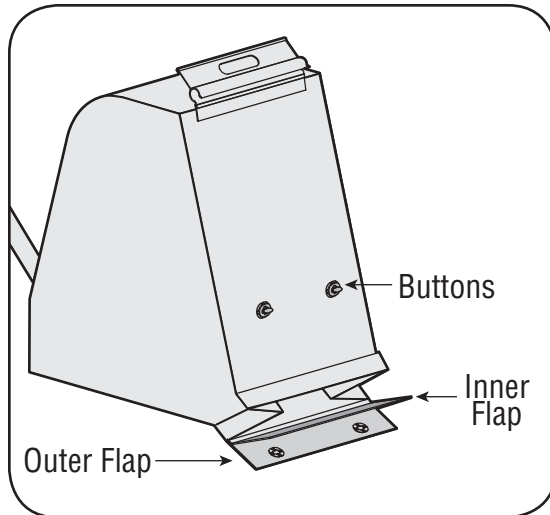

Figure 11
- Twist the two buttons on the back of the bag to unlock and empty contents. See Figure 11. Hold bag handle and bag clip while emptying the contents.
- Fold outer flap over inner flap and insert buttons on the bag through metal outlets. See Figure 11.